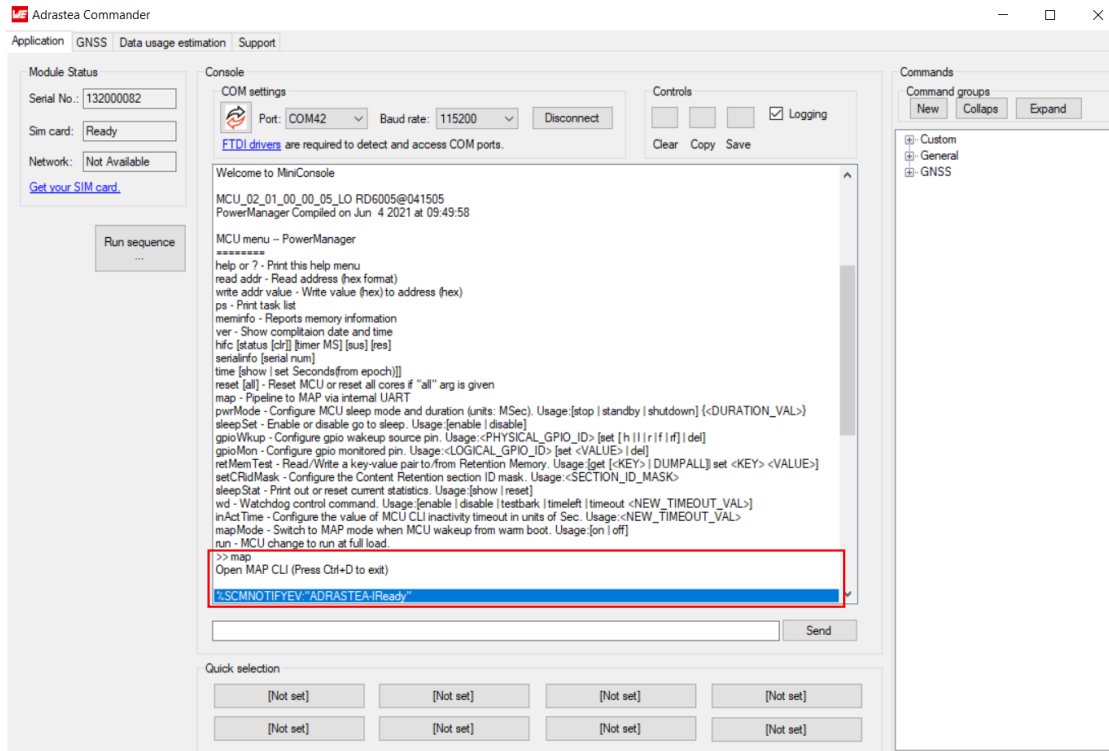

Figure 19: MiniConsole start view - Adrastea Commander
5. Press the reset button on the Evaluation board to ensure a clean start-up of the module. See figure 19.